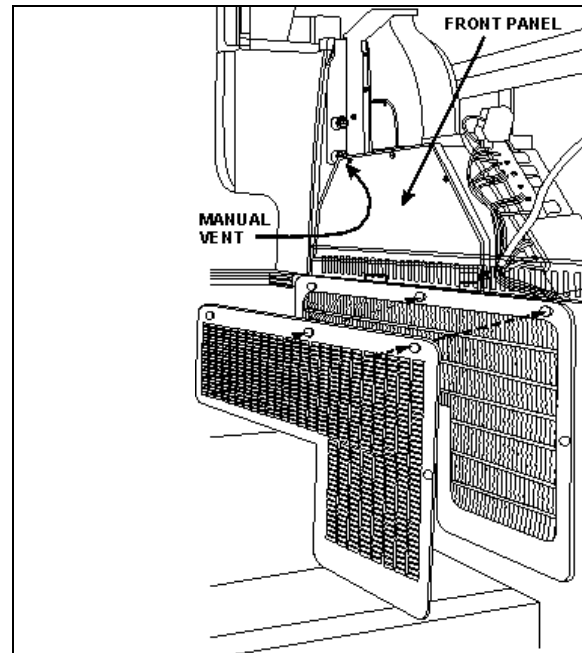

FIGURE 50: DRIVER'S HVAC UNIT 22328
4. From inside of vehicle, remove the two finishing panels in front of unit. Remove the three screws fixing the unit front panel. Open the manual vent located inside the HVAC unit, on the driver's side (Fig. 50) to ensure an efficient draining.
Whenever the heating system has been drained and refilled, or the system has run low on coolant and coolant has been added, it is necessary to bleed air from heating system. Locate the manual vent illustrated in Figure 50, and open momentarily until no air escapes from the line.